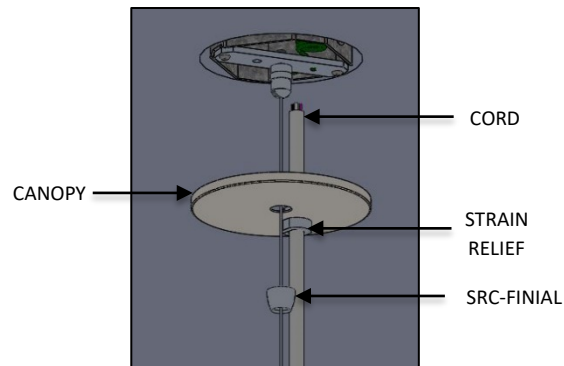

FIG. 22 – CORD INSTALLATION
22. Feed POWER CORD through the second Hole in the CANOPY and secure CORD to CAOPY with CORD STRAIN RELIEF as shown below in FIG. 22.